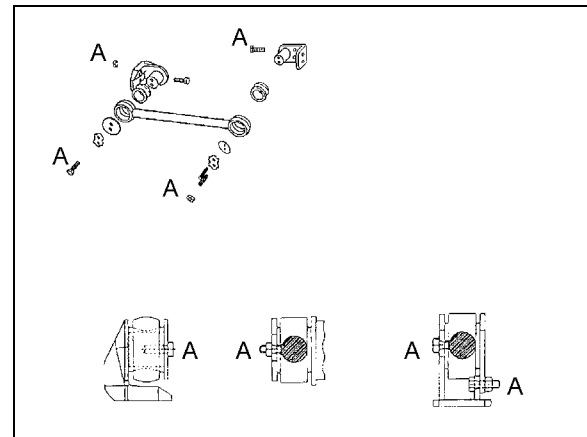

FIGURE 12: RADIUS ROD INSTALLATION 16028
1. Lightly spray the radius rod support with water. Place the radius rod end over the radius rod support (Fig. 12).